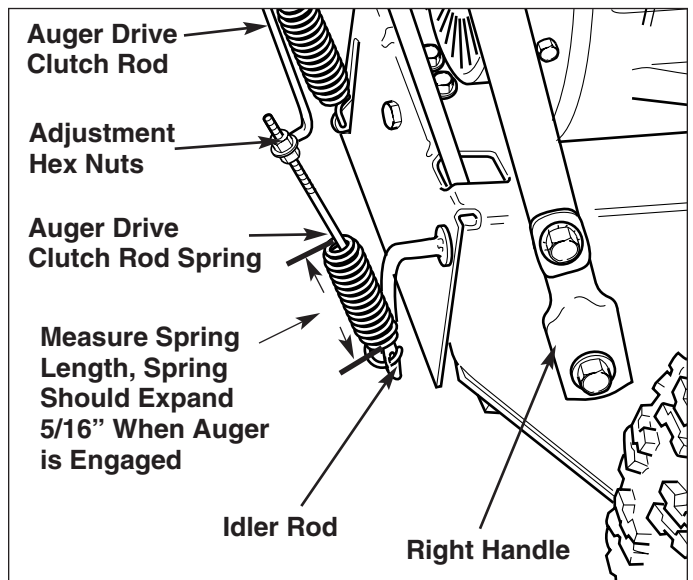

Figure 25. Auger Drive Clutch Rod
2. Check that there is no slack in the auger drive clutch rod (see Figure 25). If there is, follow the Auger Drive Clutch Rod Adjustment procedure on page 24.
3. Measure the length of the auger drive clutch spring (Figure 25).